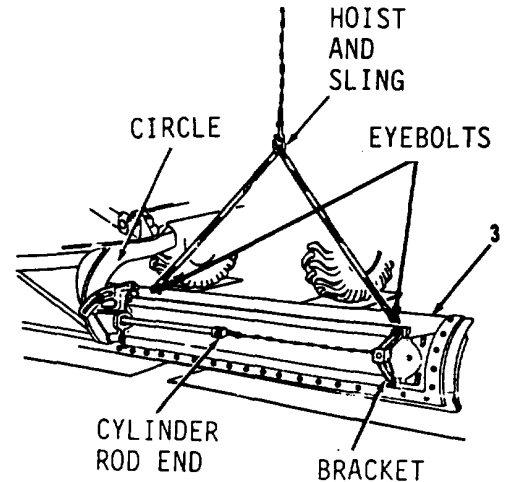

Figure 12-4.
1. Install two eyebolts to blade assembly (3, Figure 12-4)
2. Attach hoist and sling to two eyebolts on blade assembly (3).
3. Using hoist and sling, install blade assembly (3) on circle.
6. Operate blade sideshift control to retract cylinder rod and blade assembly (3) up to nearest of two eyebolts to circle.
7. Remove one side of hoist and sling and one of two eyebolts from side of blade assembly (3) nearest to circle and chain from bracket and cylinder rod end.